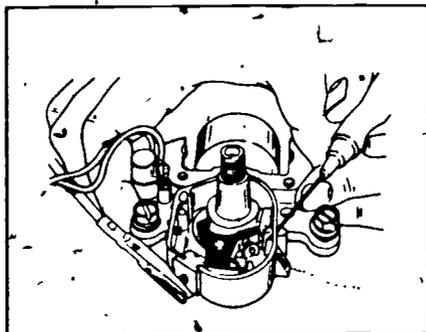

FIGURE 7
5. Disconnect the coil lead to the points and connect one end of the continuity tester to the breaker point terminal (Figure 7)